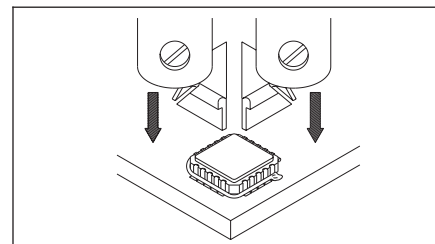

Figure 3 Position Tip
9. Lower tips over component and squeeze handpiece. (See Figure 3.)